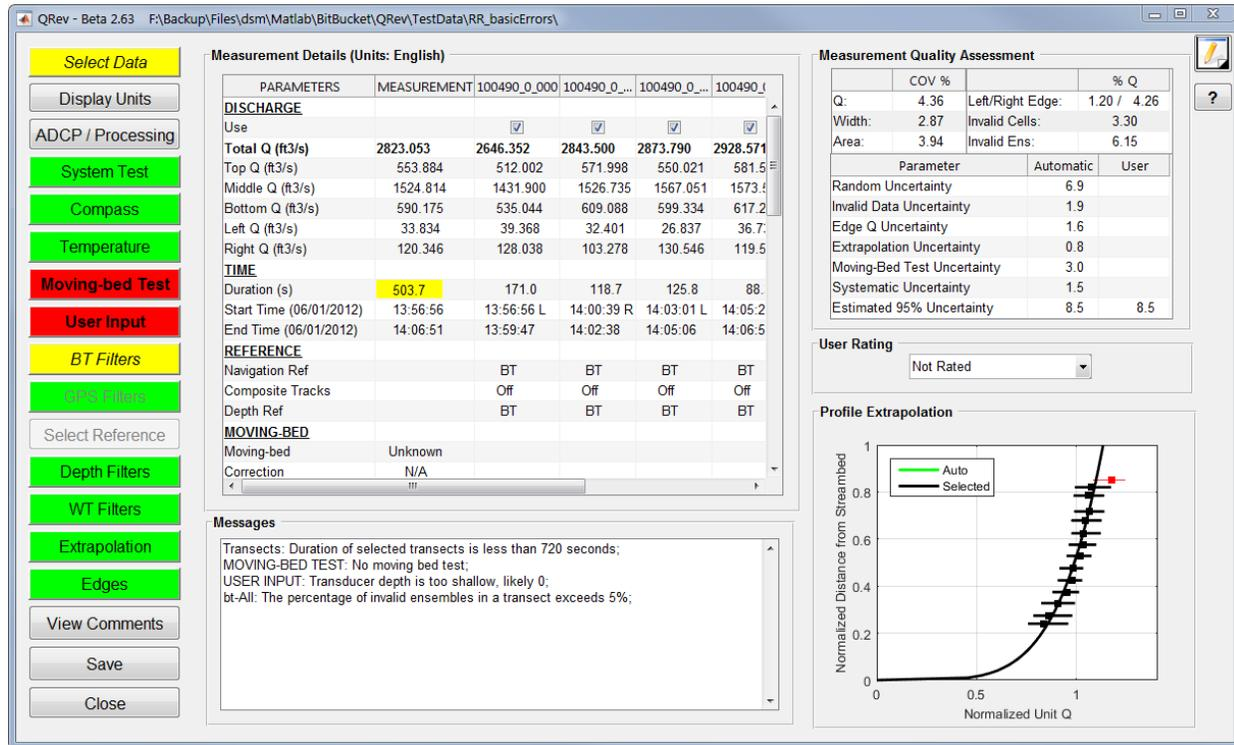
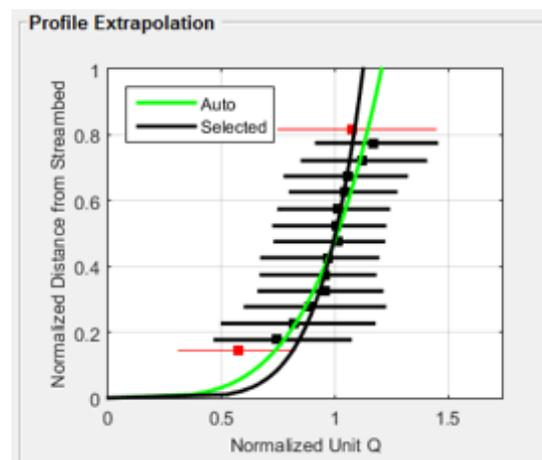
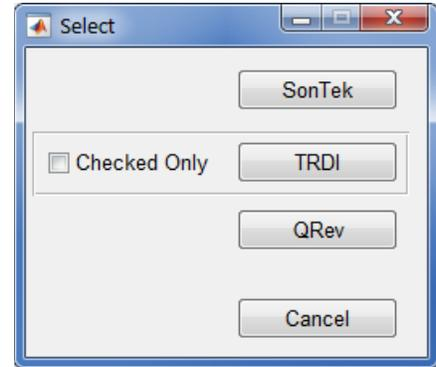
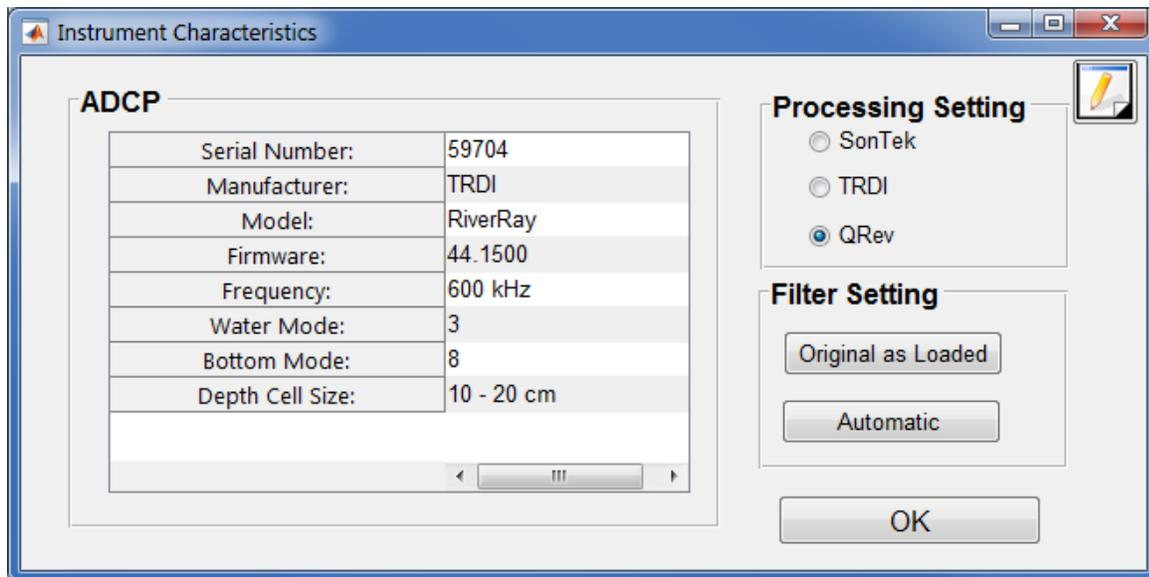

Figure 1. QRev main window. Although this window is labeled QRev Beta 2.63, the presentation is the same as in QRev version 2.8.
Figure 4. Example profile extrapolation showing a selected extrapolation method different from the automatically selected method.
Figure 5. Select data window.
Figure 8. ADCP/Processing dialog window.
The GUI, shown in figure 1, is designed to be logical and tablet friendly. To load and review data, the user works from top to bottom along the buttons on the left. This approach leads the user through the premeasurement steps first. Navigation reference, depth, and water data are needed to compute discharge. By working top to bottom, the best navigation data are obtained, then the best depth
The buttons on the left (fig. 1) will turn green, yellow, or red based on the automated data quality assessment (ADQA). If a button is yellow or red, an associated message will be in the message box at the bottom of the main window. Buttons, check boxes, radio buttons, and pop-up menus are used in lieu of menus in an attempt to make QRev easy to use on a touch screen tablet. Each button opens a modal window that provides tables, text, options, and graphics needed to assess and process that particular aspect of the data in more detail. The modal window will not allow the user to open or work in another window until that window is closed.
The QRev main window (fig. 1) has the following six sections: (1) buttons down the left side, (2) Measurement Details panel, (3) Messages panel, (4) Measurement Quality Assessment panel, (5) User Rating panel, and (6) Profile Extrapolation panel. The information available from this main window provides the user an overview of the measurement quality and totals. The color highlighting and messages alert the user to any potential issues detected by the ADQA. Other modal windows to explore the data or change the processing settings are accessed from this main window using the buttons on the left.
The buttons on the left (fig. 1) are arranged from top to bottom to lead the user through the steps of loading, reviewing, and finalizing a measurement. The buttons will display in one of four ways depending on the results of the ADQA.
The Measurement Details panel (fig. 1) provides a table of the measurement results and configuration settings. The units system used for the measurement is shown in the panel label and with each row label that has units associated with it. A scroll bar on the right allows the user to scroll up and down through the table. Depending on the number of transects in the measurement there may be an additional scroll bar at the bottom to allow the user to scroll left and right. Clicking in the table will allow navigation of the table with the arrow keys. The width of the columns can be changed by placing the cursor in the column labels and dragging the column divider.
The Messages panel displays messages reported by the ADQA (fig. 1). Each message has an initial identifier followed by a colon. Messages with an identifier that is in all uppercase are warning messages and will be associated with a red button. Messages with an identifier that has lowercase letters are caution messages and will be associated with a yellow button. The scroll bar on the right allows the user to scroll through messages if the messages exceed the panel size. The arrow keys cannot be used to scroll through the messages text box.
The Measurement Quality Assessment panel (fig. 1) consists of three tables with information to assist the user in rating the quality and uncertainty of the measurement. The table in the upper left provides the coefficient of variation in percent (COV %) for the total discharge, the cross-section width, and the cross-sectional area. The table in the upper right provides the percentage of total discharge (% Q) in the left and right edges (Left/Right Edge), in invalid cells (Invalid Cells), and in invalid ensembles (Invalid Ens.). Cells in the tables may be colored based on the results of the ADQA.
The table at the bottom of the panel has two columns for the uncertainty of the various aspects of the measurement (fig. 1). The column labeled “Automatic” contains the values generated by QRev based on assumptions and computations defined in Mueller (in press) and briefly in the following paragraphs. Because the assumptions and computations used to generate the values in the “Automatic” column are simplistic, the values may not accurately represent the uncertainty for all conditions. The column labeled “User” allows the user to override the automatic values with a user supplied value. A value entered by a user should be supported with a comment. The total estimated 95 percent uncertainty value will be recomputed each time a new “user” value is input. The uncertainty categories are defined as follows.
The User Rating panel (fig. 1) provides a popup menu to allow the user to rate the measurement. QRev does not automatically rate the measurement. The user should consider the information provided in the Measurement Quality Assessment panel (especially the uncertainty estimate), the quality of the stage measurement, and any other factors that might affect the overall quality of the measurement when selecting the final rating.
The Profile Extrapolation panel (fig. 1) contains a graph of the normalized depth and discharge for the entire measurement (check transects only). The data are represented by median values of normalized Q at the mean normalized depth for all data within 5 percent increments of normalized depth. The whiskers on the data points show the range of 50 percent of the data in that median. The selected extrapolation methods are shown with a black line, and the extrapolation methods based on the automatic methods in QRev are shown with a wider green line (fig. 4). QRev defaults to the extrapolation methods based on the automatic selection algorithms; however, the user can choose to override that automatic selection.
The Select Data button (fig. 1) is used to load data into QRev. Clicking the Select Data button opens the dialog shown in figure 5. QRev can load data from the following three sources:
For TRDI ADCPs, select the *.mmt file in the Open File dialog and the transects and supporting data will be loaded. To only load the transects that have been checked in WR2, first click the “Checked Only” box and then click on TRDI (fig. 5).
The Select Data button (fig. 1) may be colored based on the following ADQA checks.
The Display Units button (fig. 1) opens a window that allows the user to select the desired units (English or International System of Units [SI]; fig. 7). This selection can be made at any time. This setting only affects the display of the data and does not have to be consistent with the original units of the loaded data. All data in QRev are stored internally in SI units.
The ADCP/Processing button (fig. 1) will open a dialog window that shows information about the ADCP (fig. 8). ADCPs with auto-adaptive water and bottom modes and frequencies may display “Variable” or a range of values representative of the data collected. If the information is not available in the data loaded, the value will be left blank.
The Processing Setting panel allows the user to change the processing algorithms and global filter settings used to compute discharge (fig. 8). The Processing Setting defaults to QRev and the filter setting defaults to Automatic for all data types. The Automatic filter setting turns most of the filters in QRev to an Auto setting, meaning these filters will be applied to the data using preset values or preset
The user can switch the processing type among SonTek, TRDI, or QRev (fig. 8). Switching the processing type changes the way invalid data are interpolated and handled. The user can also change the filter settings to the filter settings used in the original data (Original as Loaded). If a filter is not supported by the manufacturer and does not have a setting, that filter is turn off. For QREV to process the data like RSL, the user would select SonTek, wait until QRev finishes processing that request, and then click on Original as Loaded. This combination will process the data similarly to RSL. Likewise, to process data like WR2, the user would select TRDI and then click on Original as Loaded. The user can use the Automatic button to turn all filters to Automatic if changes have been made using other windows in QRev.